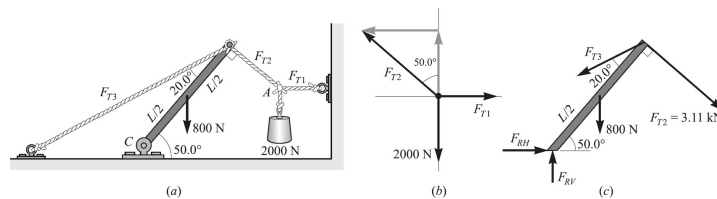

Fig. 5-12
5.11 [III] For the situation drawn in Fig. 5-12\(a\), find F_{T1} , F_{T2} , and F_{T3} . The boom is uniform and weighs 800 N.
First apply the force condition to point-A. The appropriate free-body diagram is shown in Fig. 5-12\(b\). We then have
Let us now isolate the boom and apply the equilibrium conditions to it. The appropriate free-body diagram is found in Fig. 5-12\(c\). The torque equation, for torques taken about point-C, is